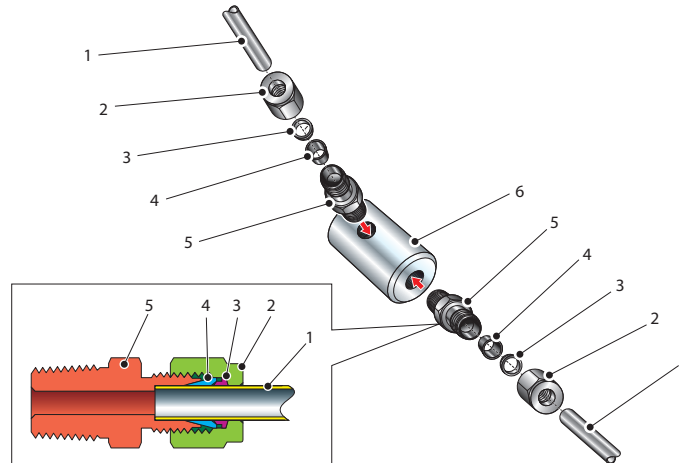

Figure 16 Sample Block Gas Connections
Sample gas connections are made to the Gas In and Gas Out ports on the sample block (see *Figure 16*). Either port on the sample block may be used as the Gas Input port (i.e. for connection purposes the ports are interchangeable).
Both the Input and Output gas connections are 1/8" NPT. It is recommended that both the Gas Input and Output connections are made via 1/8" NPT to 6mm or 1/8" NPT to 1/4" stainless steel tube adaptors (2...5 – *Figure 16*). The method of connection to the sensor block (6) is as follows: